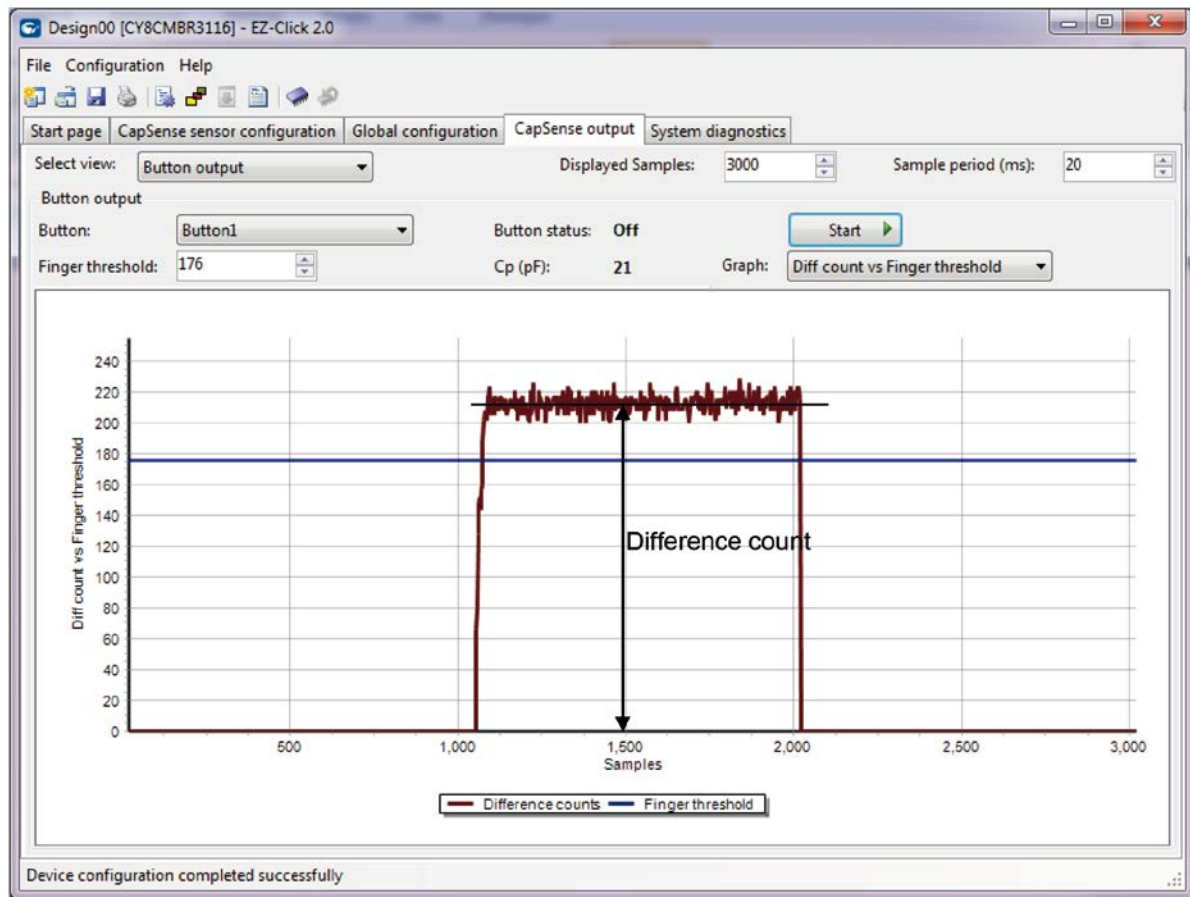

Figure 6-5 Difference Count Measurement
2. Touch the sensor and measure the difference count, as Figure 6-5 shows.
For the example shown in Figure 6-5, the difference count is approximately 210 counts and the threshold parameters are set as shown below.